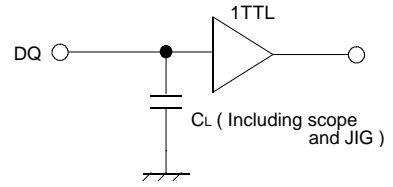

Fig.1 Output load
(1) MEASUREMENT CONDITIONS
- Output loads Fig.1, CL = 30pF